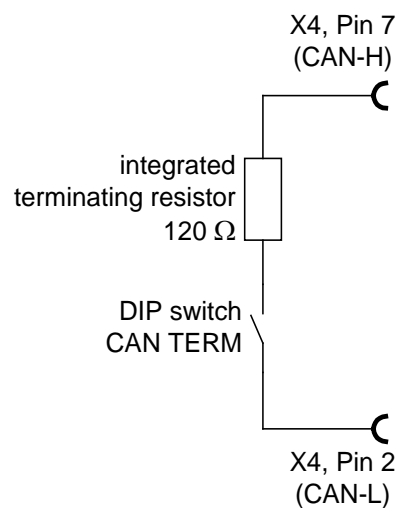

Figure 26: Integrated CAN terminating resistor
- A terminating resistor of $120\ \Omega \pm 5\%$ must be present on both ends of the CAN bus cable. The item Servo Positioning Controller C 3-Series is equipped with an integrated terminating resistor that can be activated/deactivated via the DIP switch "CAN TERM" on the front panel (see *Figure 26*).